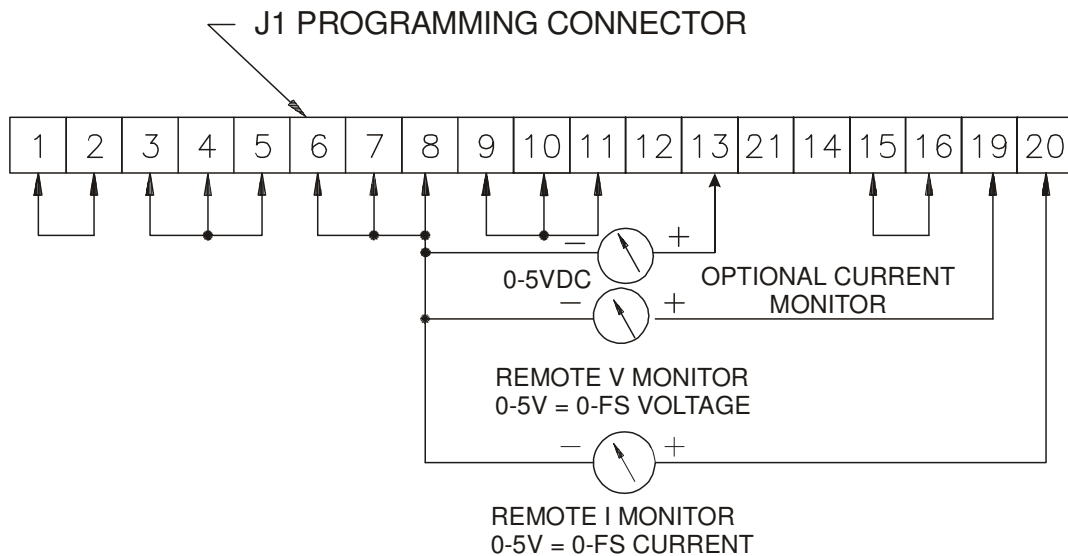

Figure 3.19: Voltage and Current Monitor
- B) Connect 0-5 Vdc meter from J1-20(+) to J1-8 (-V). Full output current, will generate a full scale reading of 5 Vdc. See Figure 3.19.